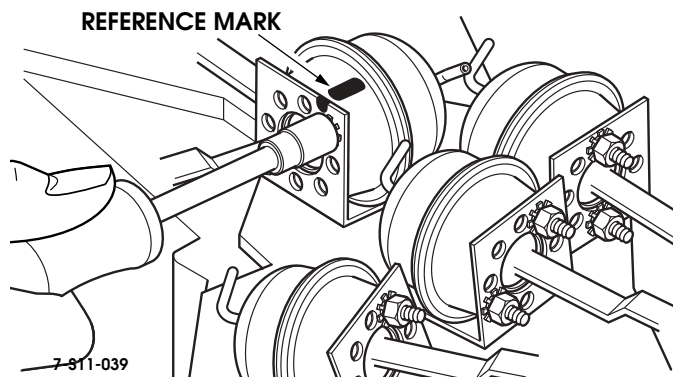

Figure 11-67: Vacuum Door Motor Replacement
4. Note position of mounting studs on the motor to be replaced. Mark holes that studs pass through (Figure 11-67).
8. Remove two mounting nuts and vacuum motor (Figure 11-67).